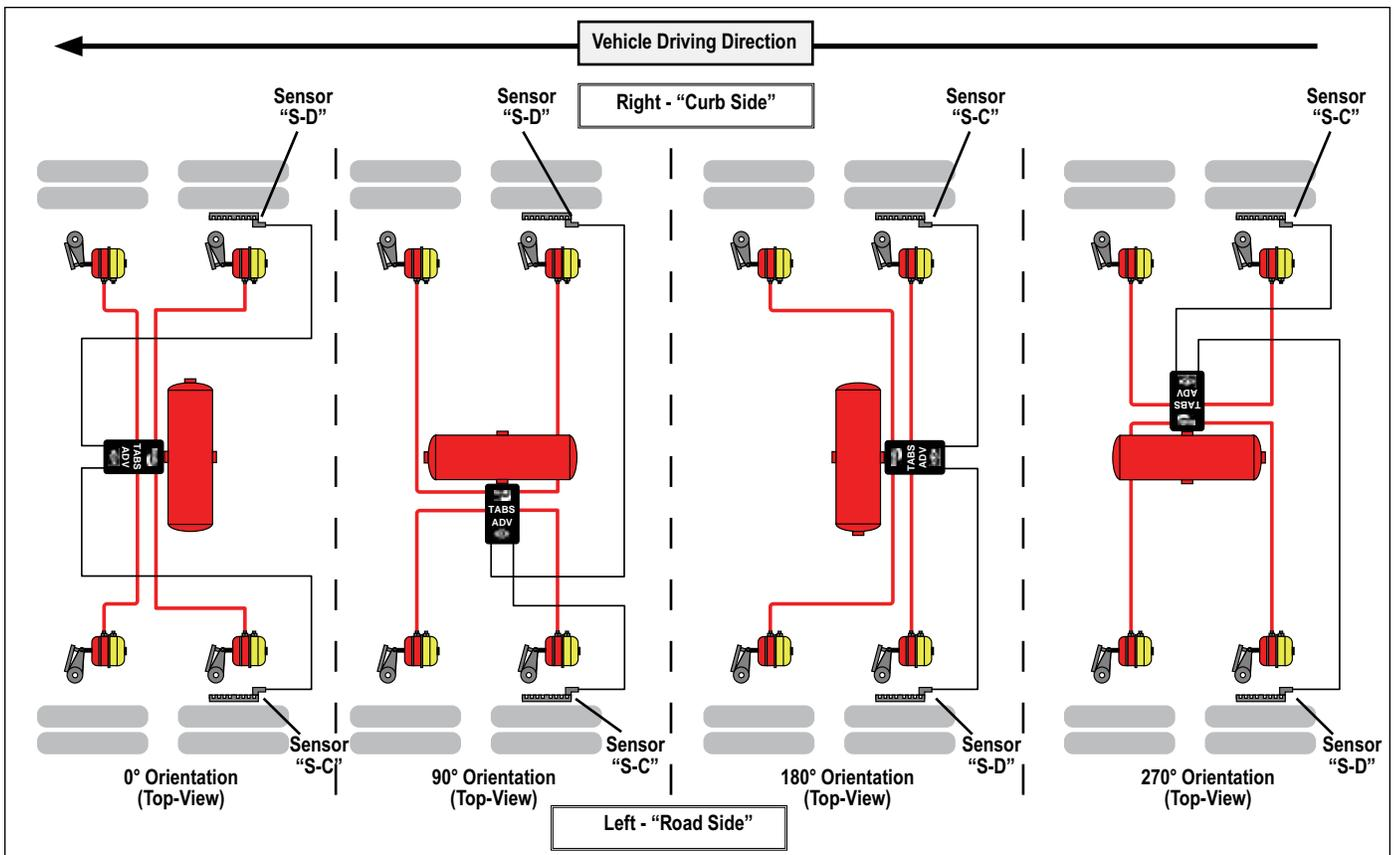

FIGURE 19 - WHEEL SPEED SENSOR INSTALLATION
Note: The wheel speed sensors must follow the orientation of the module as shown in Figure 19 for fixed axle trailers.
- If the wheel sensor location does not match the orientation of the Bendix® TABS-6™ Advanced module shown in Figure 19, a Diagnostic Trouble Code (DTC) will be generated and the ABS indicator lamp will be illuminated.